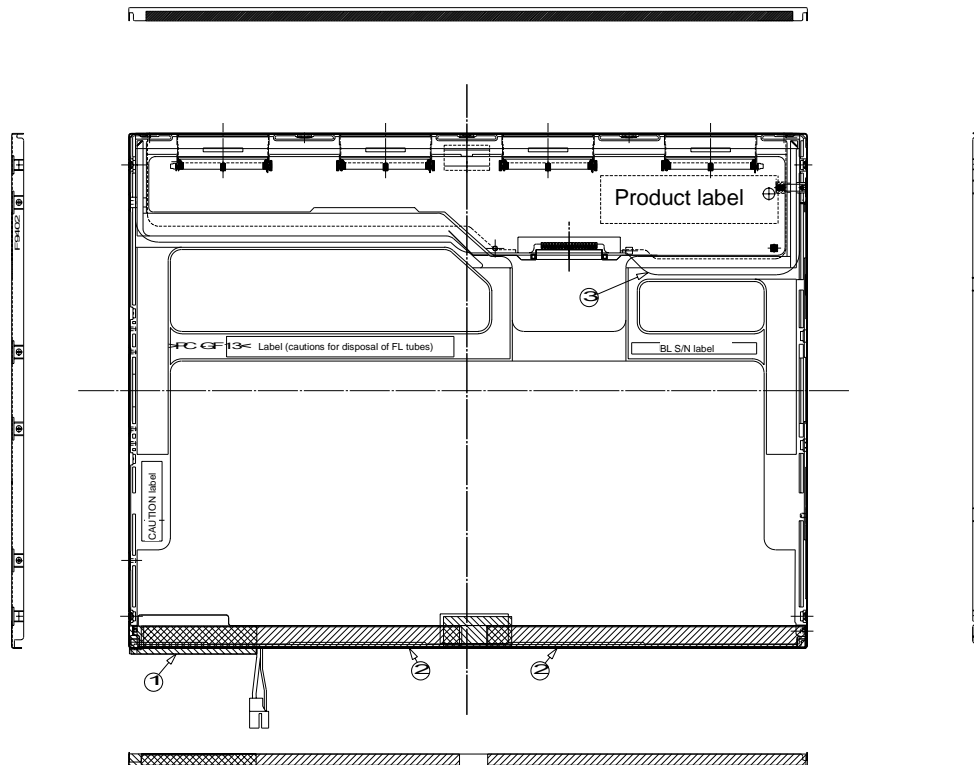

Figure 4-45 Replacing 14 Inch TMD fluorescent lamp (1)
Replace the Toshiba 14.1-inch XGA fluorescent lamp according to the following procedures and Figures 4-45 to 4-56.
2. In the order (1), (2), and (3) shown in Figure 4-45, remove the tape for fixing the FL tube cable, two pieces of tape on the bezel that are close to the FL tube, and the X-PCB insulation sheet.